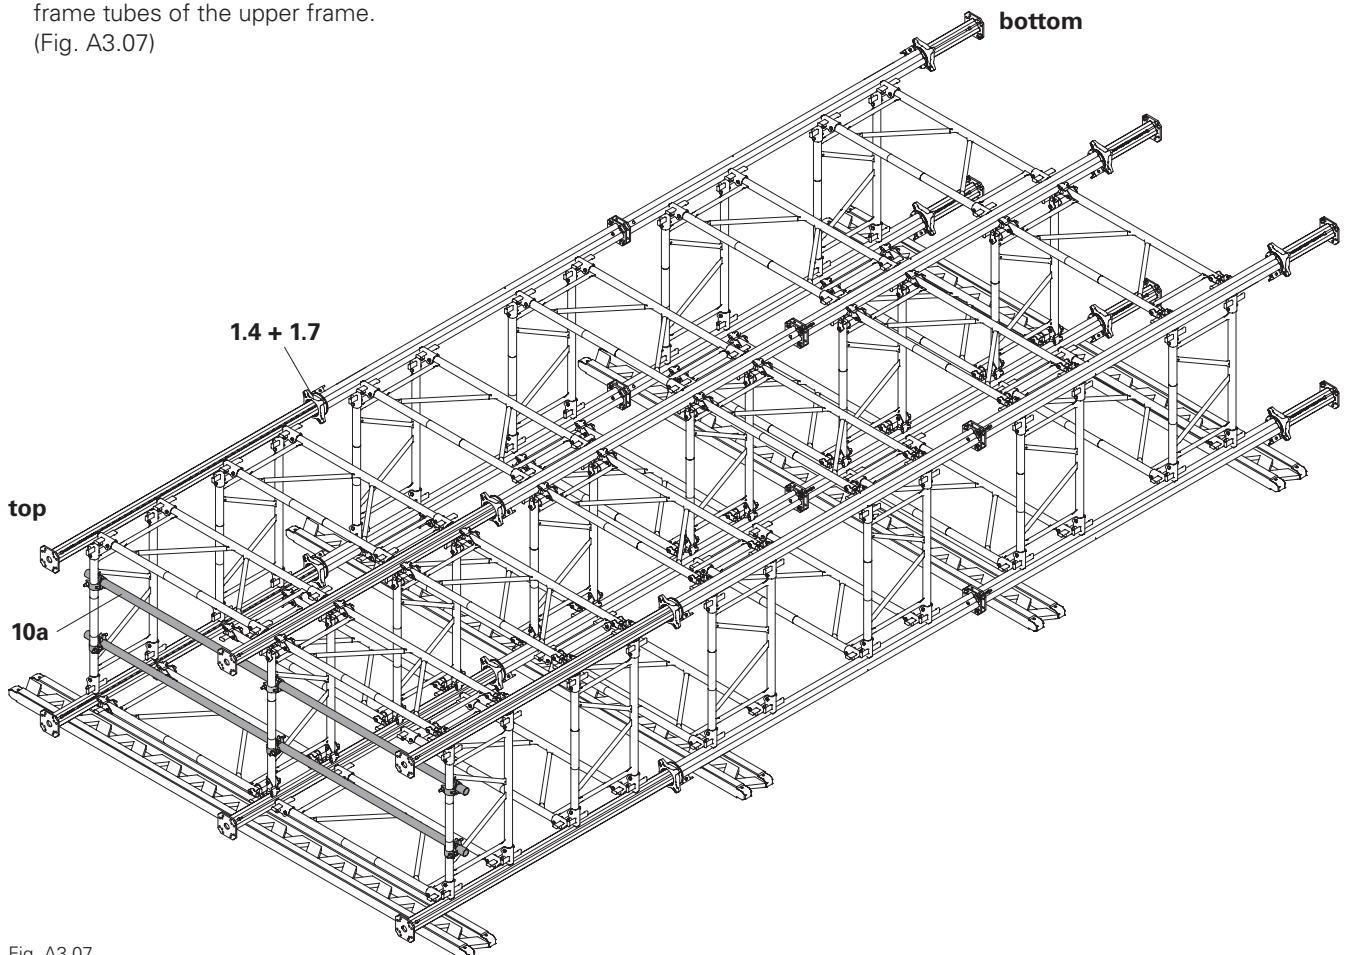

Fig. A3.07
- For the lifting unit, fit 48.3x3.2 mm (**10a**) scaffolding tubes beneath the frame tubes of the upper frame. (Fig. A3.07)